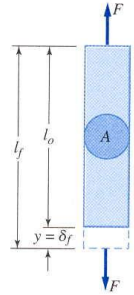

Figure 2.1
• Straight uniform elastic bar loaded by centered axial force (Figs. 2.1, 2.2, 2.3)